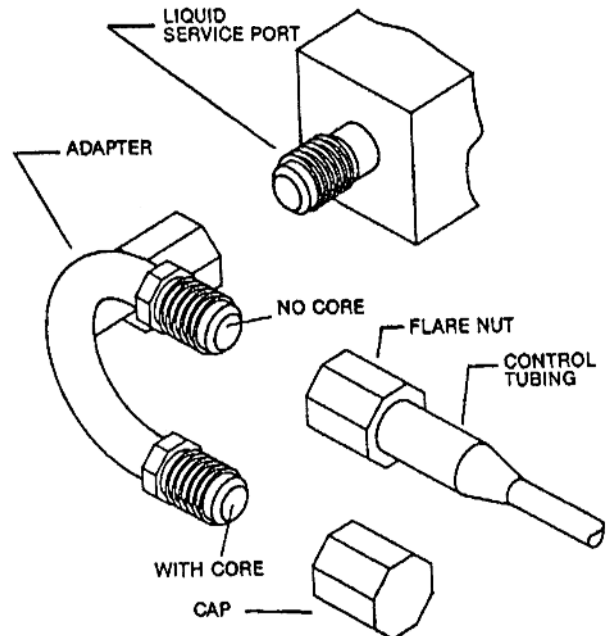

FIGURE 2. FITTING CONNECTIONS
4. Route control tubing with flare nut through the top knock-out of the valve mounting panel. See Figure 2. Install bushing in knock-out hole.